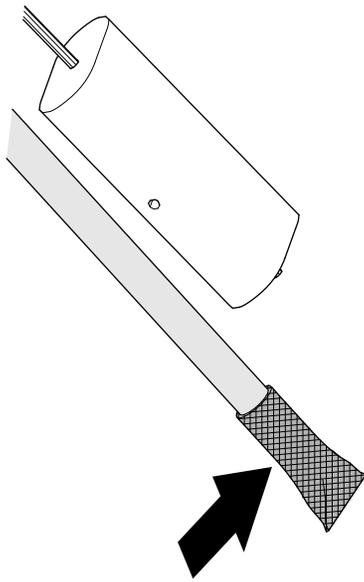

Figure 127
1. Clean the screen at the end of the fuel pick-up tube (Figure 127).